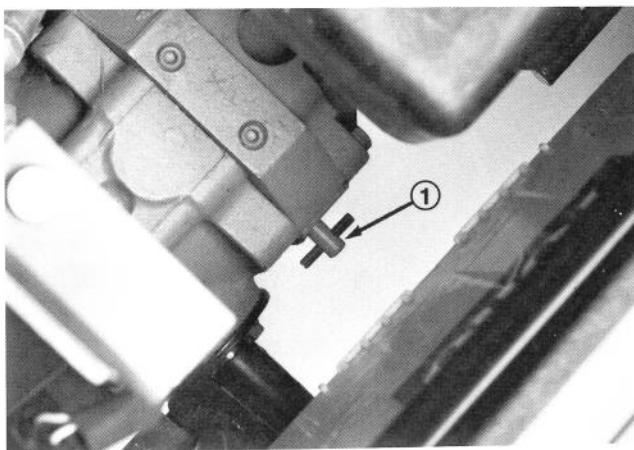

Figure 25
1. Reach under traction unit and rotate by-pass valve (Fig. 25) 1/2 to 1 turn counterclockwise. Opening the valve opens an internal passage in the transmission, thereby by-passing transmission oil. Because fluid is by-passed, traction unit can be moved without damaging the transmission.